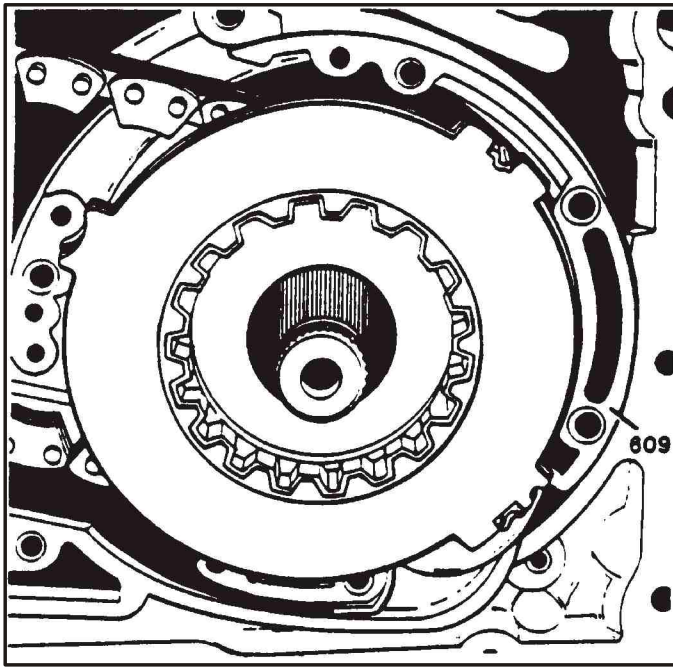

Figure 175
80. Align the 4th clutch piston in sprocket support and the driven sprocket support to the case, as shown in Figure 175.